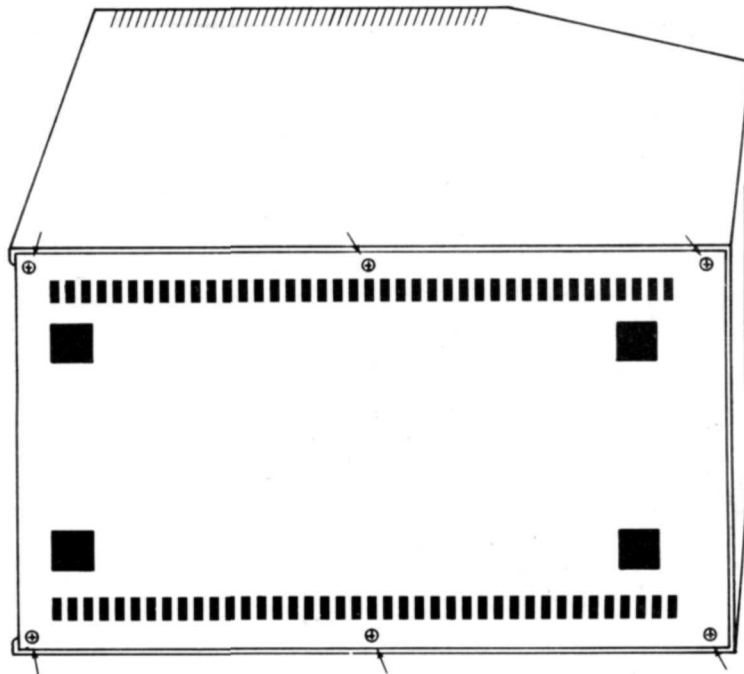

Figure 13. Screw Locations
2. Remove the six screws that secure the housing to the bottom of the Card Reader as shown in Figure 13.